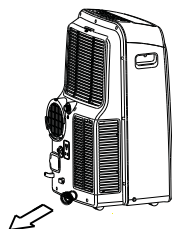

Fig. 20
- When the water level of the bottom tray reaches a predetermined level, the unit beeps 8 times, the digital display area shows "P1". At this time the air conditioning/dehumidification process will immediately stop. However, the fan motor will continue to operate (this is normal). Carefully move the unit near a drain location, remove the bottom drain plug and let the water drain away (Fig. 20). Reinstall the bottom drain plug and restart the machine until the "P1" symbol disappears. If the error repeats, call for service. NOTE: Be sure to reinstall the bottom drain plug before using the unit.